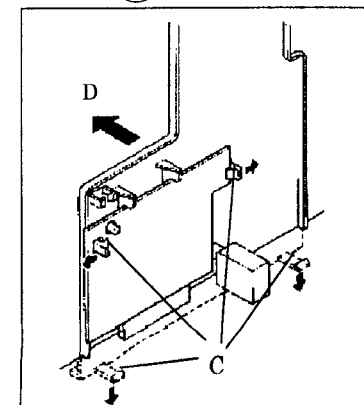

Fig. 2
2. While raising the claw marked "C", remove the top of the AV TERMINAL BOARD slightly in the direction of arrow "D" as shown in Fig. 2.